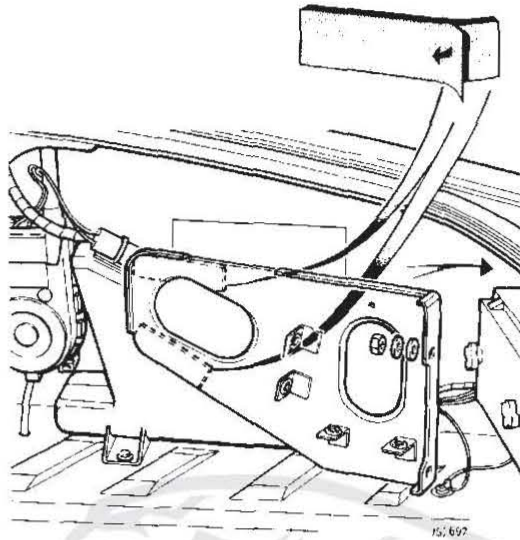

FIG 3
- 3) Should a rattle be suspected between the module mounting bracket and the rear wing, fit two self-adhesive foam pads to the bracket rear face (Fig.3).